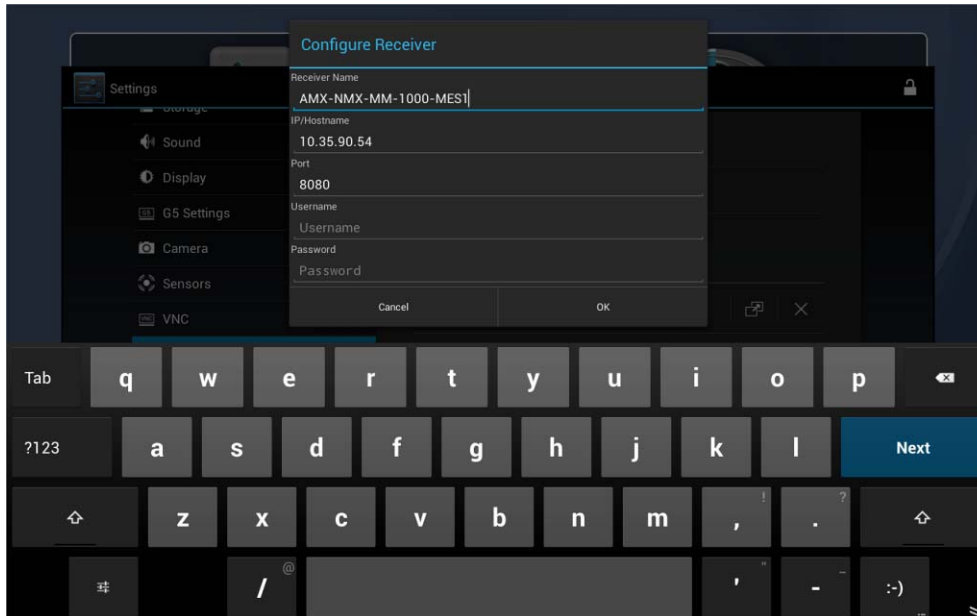

FIG. 43 Configure Receiver window - indicating connection information for the selected Enzo Receiver
- Press to select an Enzo unit to use as the receiver for Content Sharing functions on this panel. This invokes the *Configure Receiver* window, populated with the information for the selected Enzo unit, as well as the on-screen keyboard (FIG. 43):